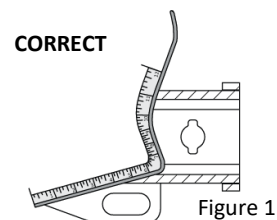

Figure 1
- Measure from bottom edge along bumper and around corner to the 70 mm point (Figure 1).
Insert Trailer Ball Mount (TBM) (a) into towbar hitchbox (b), aligning hole in TBM shank (c) with hole in hitchbox (d) (Fig. 1)